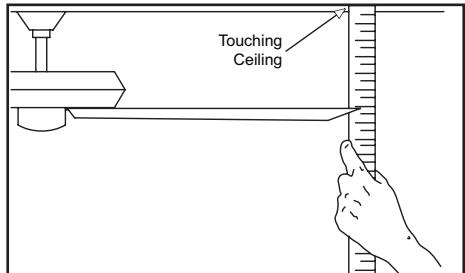

Figure 16
2. Most fan wobble problems are caused when blade levels are unequal. Check this level by selecting a point on the ceiling above the tip of one of the blades. Measure from a point on the center of each blade to the point on the ceiling. Measure this distance as shown in Figure 16. Rotate the fan until the next blade is positioned for measurement. Repeat for each blade. Measurements deviation should be within $1/8"$. Run the fan for 10 minutes.